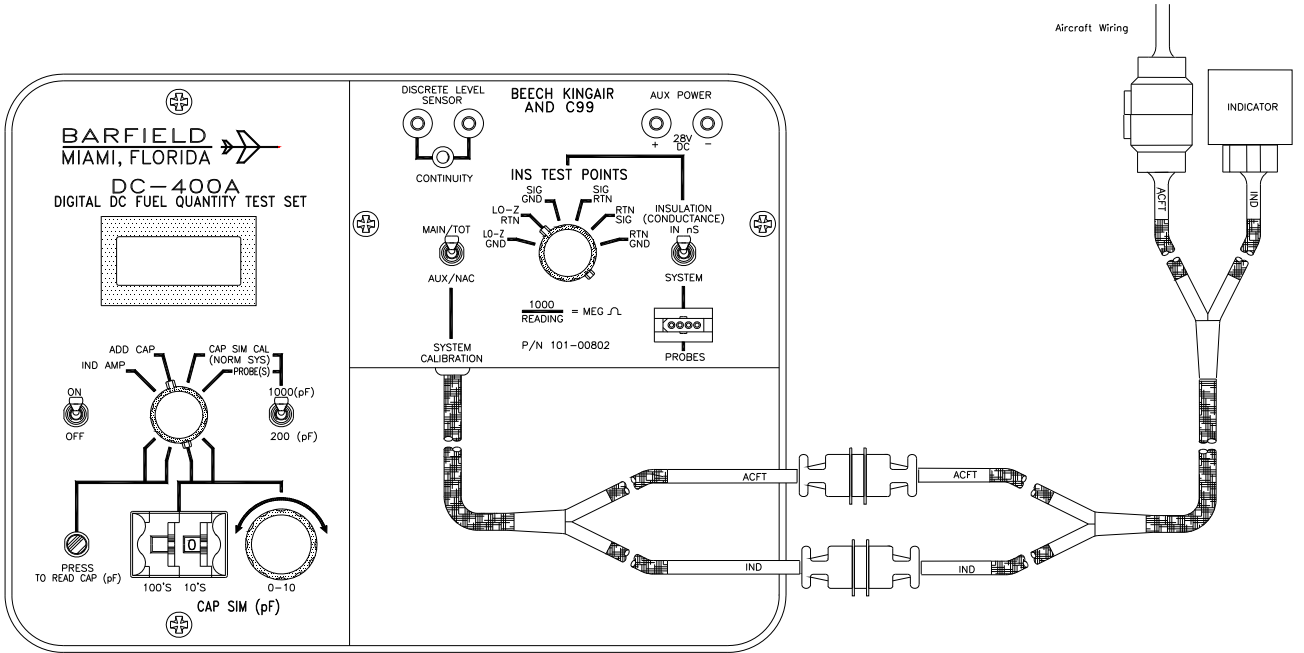
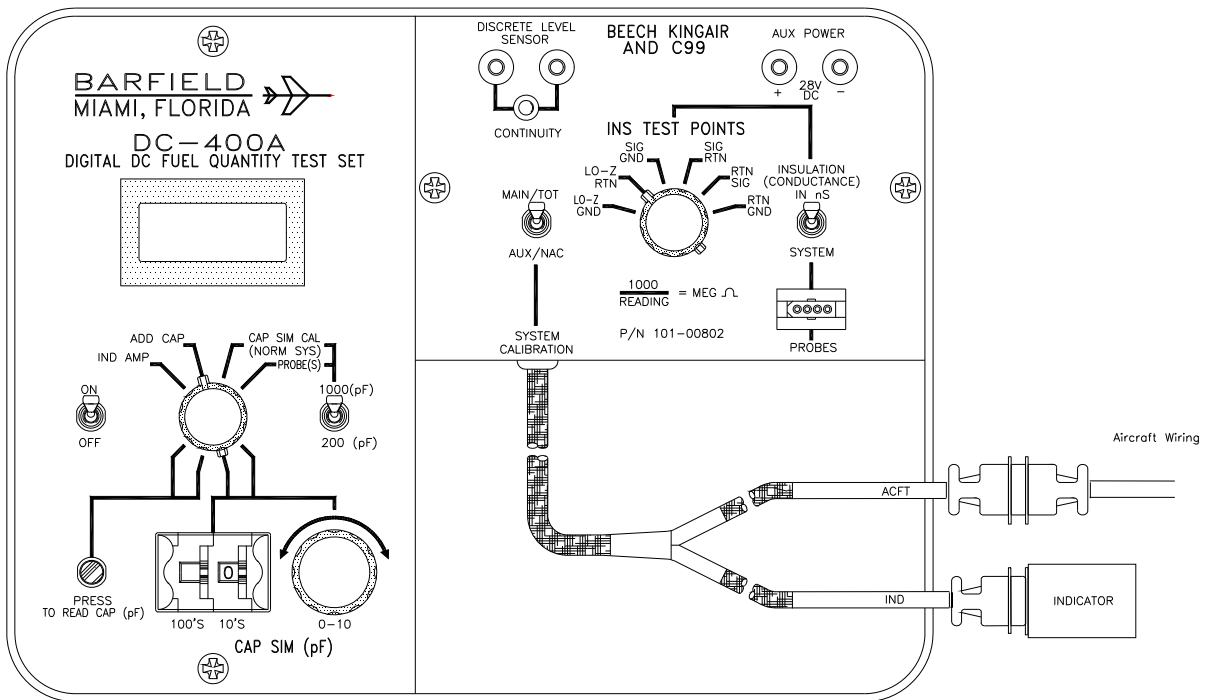

Figure 15 Alternate Calibration Test Set Setup
Figure 16 Alternate Calibration Test Set Setup
- (1) Determine the number of pins on the indicator connector and connect the test set as shown in Figure 15 or Figure 16 accordingly.